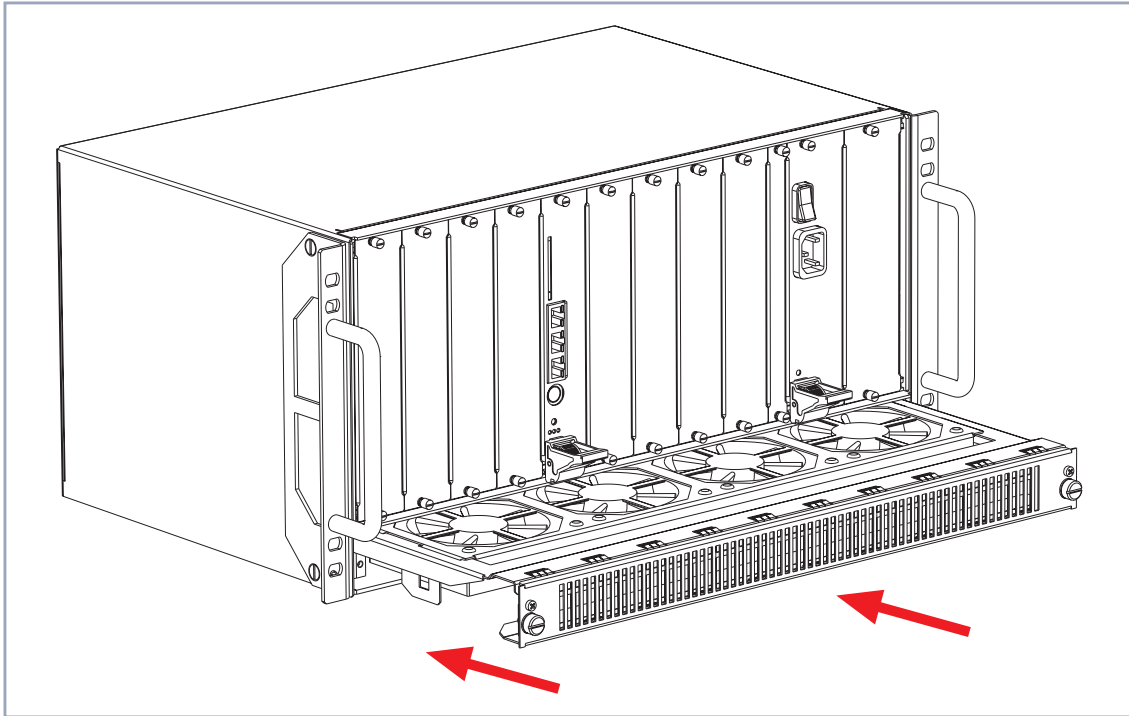

Figure 4-13: Inserting the fan cassette into the fan slot
- Insert the fan cassette into the fan slot as shown in figure 4-13, page 52.